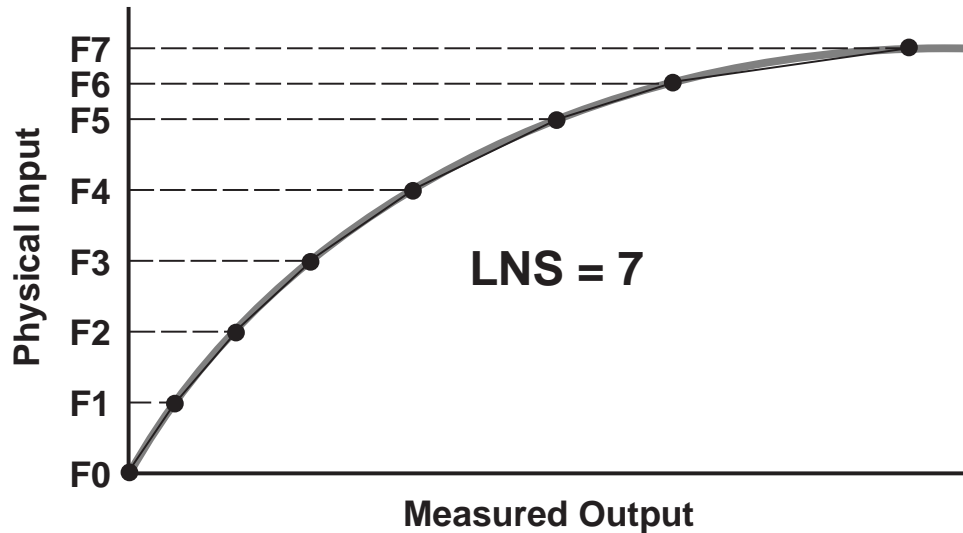

Fig. 14 Typical Linearization Curve, with Seven Segments
You will set up a linearization table for Channel 1 by entering a ZERO ("MINIMUM") POINT and up to 15 subsequent LINEARIZATION POINTS. These points will define up to 15 SEGMENTS of the ideal linear output for that channel (see Fig. 14). The more segments you specify, the greater the overall linearity. In the following procedure, you will have to be able to continuously vary the magnitude of physical input, or "load," on the channel's source transducer, and to measure the resulting output accurately in the desired engineering units.
* The more *nonlinear* curve portions, however, may require shorter and more numerous linearization segments, as with segments F5 to F6 and F6 to F7 in Fig. 14.